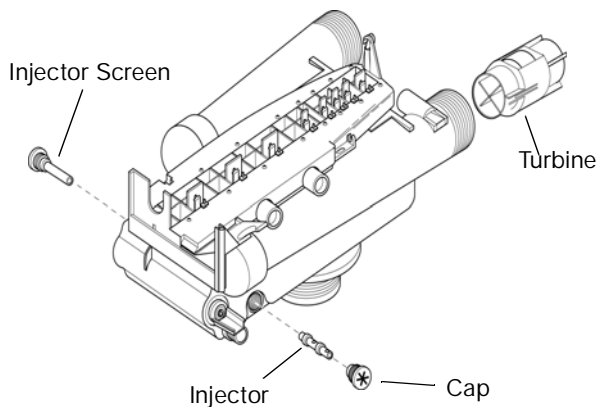

Figure 18
4. Using a needle-nose pliers, remove the turbine from the outlet housing. Grasp one of the four vanes of the outer gland and pull straight out to remove turbine assembly from the outlet of the valve (Figure 18).